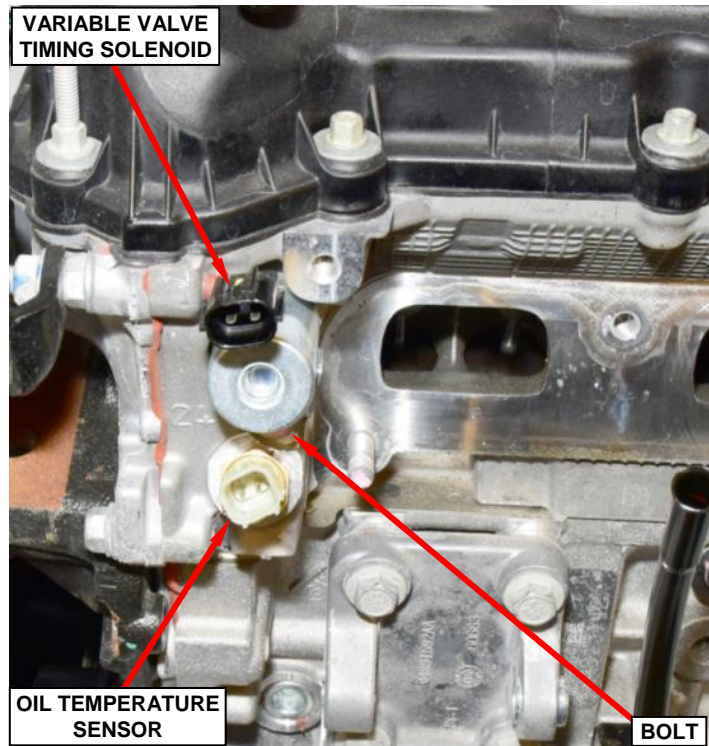

Figure 104 – Oil Sensor / Valve Solenoid
- a. Remove the oil temperature sensor (Figure 104).
- b. Remove the bolt and exhaust variable valve timing solenoid (Figure 104).
- a. Remove and save the oil temperature sensor (Figure 104).
- b. Remove and save the bolt and exhaust variable valve timing solenoid (Figure 104).